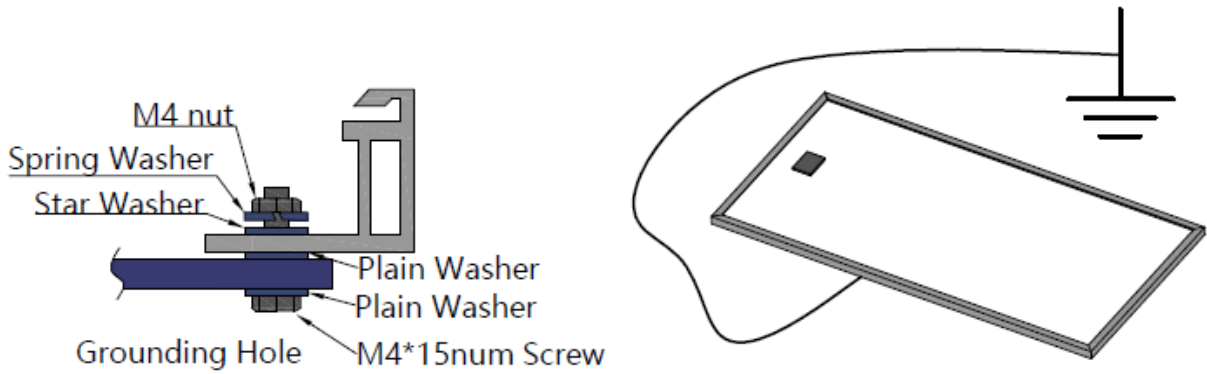

Figure 9: Ground installation of PV modules
- e) All module frames and mounting racks must be properly grounded in accordance with local and national electrical codes. Attach the equipment grounding conductor to the module frame using the hole and hardware provided. Note that a stainless steel star washer is used between the ground wire and module frame (see Figure 9 below). This washer is used to avoid corrosion due to dissimilar metals. Tighten the screw securely.